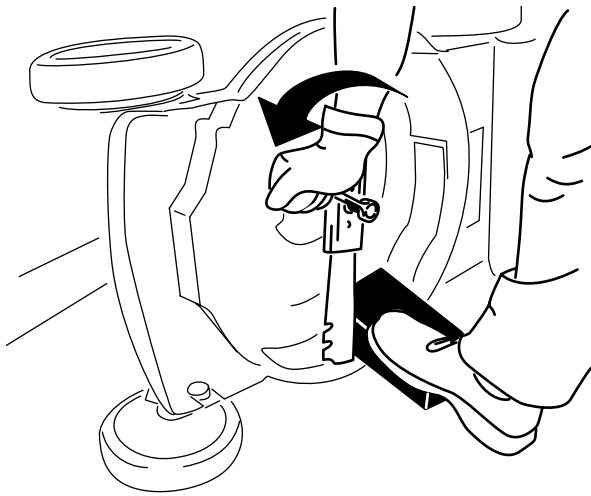

Figure 32
3. Use a block of wood to hold the blade steady (Figure 32).
4. Remove the blade, saving all mounting hardware (Figure 32).